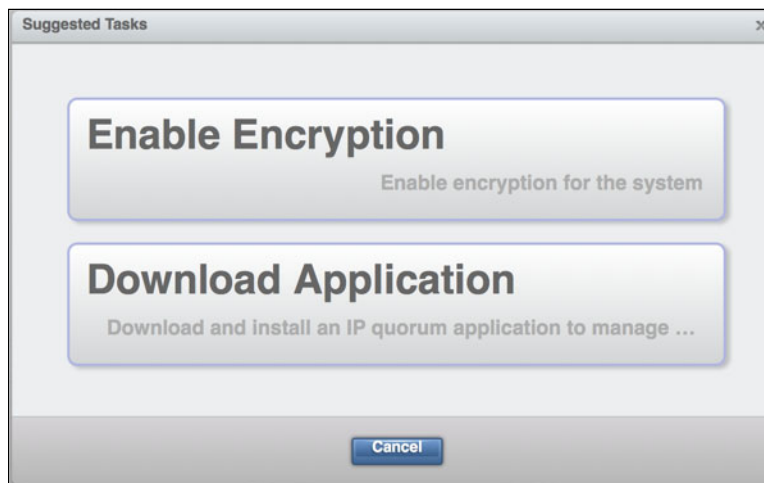

Figure 6-22 Setup suggestions
4. A Suggested Tasks window opens (Figure 6-22). For now, click **Cancel** to move on to adding the AE2 storage enclosure.